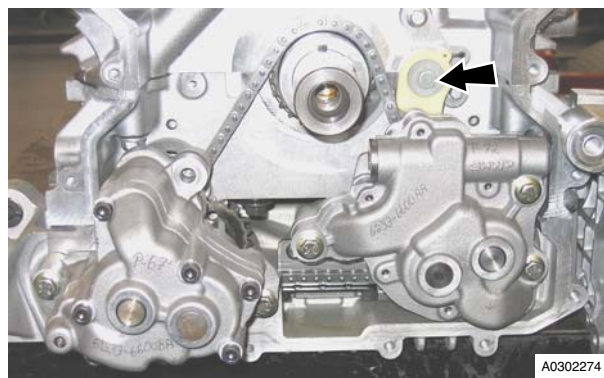

Figure 1
3. Remove bolt that attaches the oil pressure pump chain tensioner assembly to engine bedplate (refer to Figure 1).